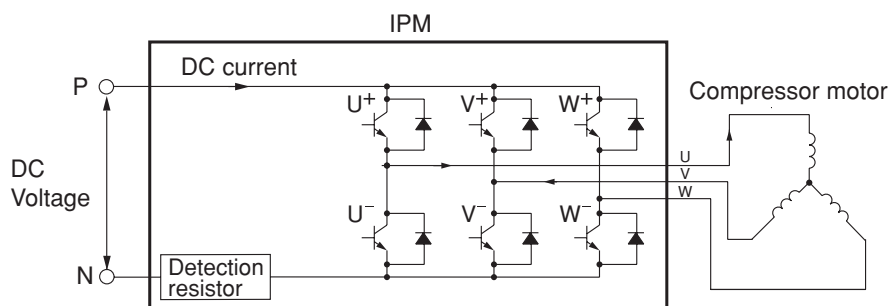

Fig. 6-6
1. Turns on the power module's U+ and V- transistors so the current flows to the motor windings as shown in Fig. 6-6.